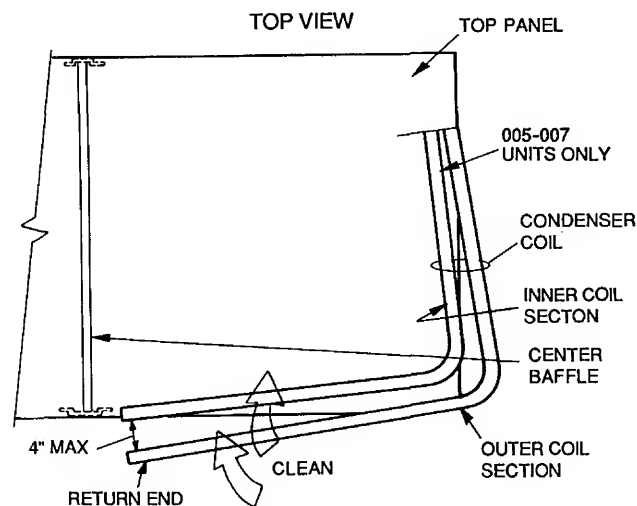

Fig. 30 — Separating Coil Sections
5. Remove fastener holding coil sections together at return end of condenser coil. Carefully separate the outer coil section 3 to 4 in. from the inner coil section. See Fig. 30.